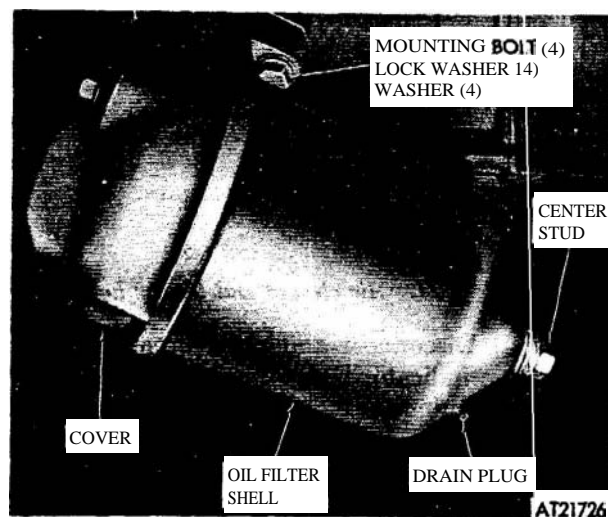

Figure 2-72. Engine oil filter.
(1) Open and secure engine cover (refer to TM 9-2320-242-10).
(2) Remove air cleaner (refer to para 2-60).
(3) Position a suitable container **under** oil filter, remove oil filter drain plug from filter shell, and drain oil from filter (fig 2-72). Loosen center stud to aid in draining.
(4) Remove oil filter shell from cover by loosening center stud. Remove and discard oil filter element.
(5) Remove gasket from groove in cover using a suitable tool. Discard gasket and clean groove.
(1) Place new stud gasket on stud, insert stud through shell and install spring, retainer, washer, new retainer gasket, and secure with nut. Install drain plug and insert new filter element in shell (fig 2-72).
(2) Attach shell assembly to cover by holding new cover gasket in position and allowing shell to work gasket into cover groove while tightening center stud. Ensure that drain plug is pointing down prior to tightening center stud.
(3) Install air cleaner assembly (refer to para 2-60b).
(4) Add one additional quart of engine oil (OE) to crankcase to replace oil removed from filter (refer to LO 9-2320-242-12).
(5) Start engine and check oil filter for leaks. Stop engine. Allow approximately five minutes for oil to drain back to crankcase and check oil level.
(6) Close and secure engine cover (refer to TM 9-2320-242-10).